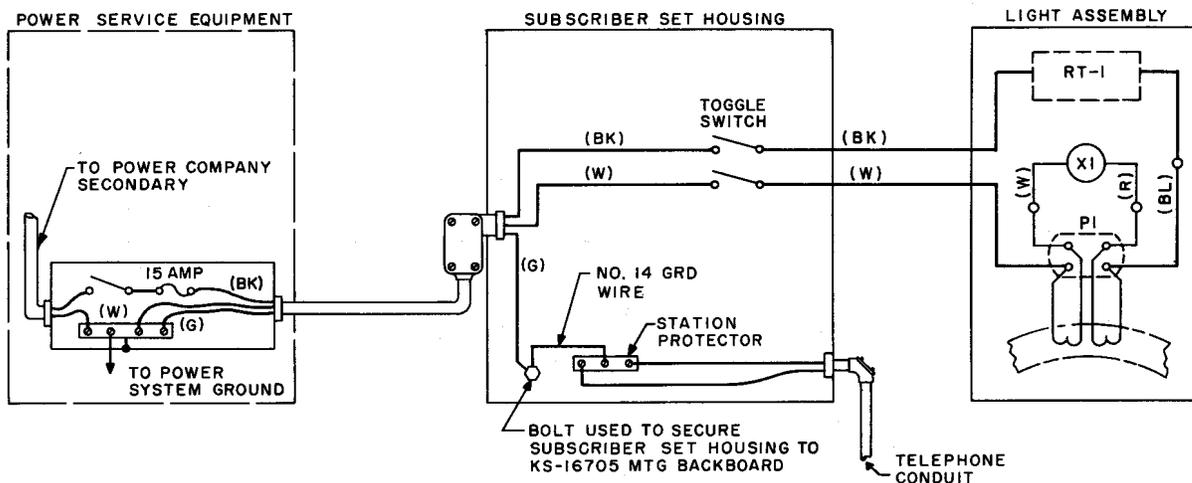

Fig. 3 - Wiring Diagram
6.03 A 3-wire arrangement between the power service equipment and the subscriber set housing is shown in Fig. 3. It is recommended that this 3-wire arrangement to the service equipment or to a junction box be used at all installations.